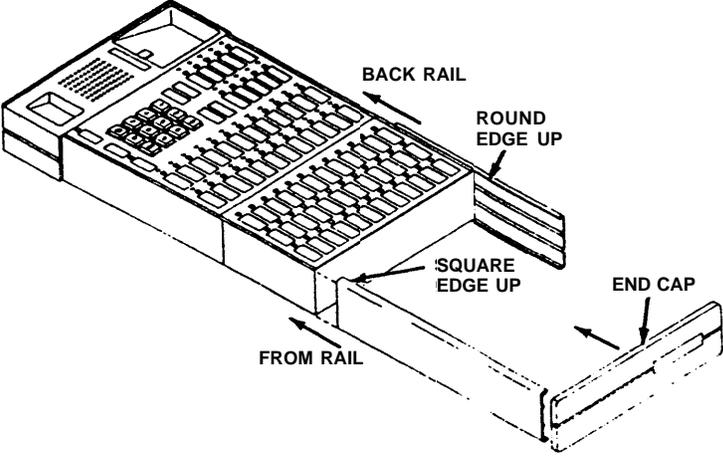

Figure 5
- 10. Get one of the new rails, turn it so that the rounded edge is up, and slide onto the back of the assembly (Figure 5).
- 11. Get the other new rail, turn it so that the square edge is up and slide onto the front of the assembly (Figure 5).
- 12. Install end cap on right side of ZH802A module following directions inside the end cap (Figures 5).